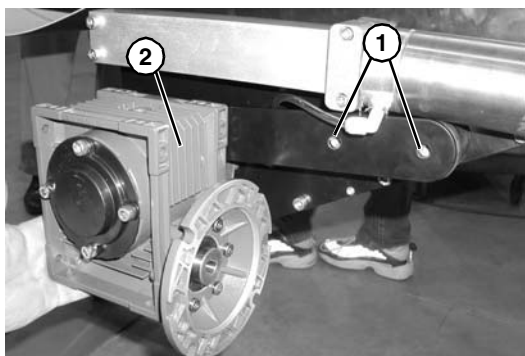

Figure 77
3. Remove screws (**Figure 77, item 1**) and remove gearmotor (**Figure 77, item 2**) (gearhead shown with motor removed for clarity, motor can remain attached to gearhead).